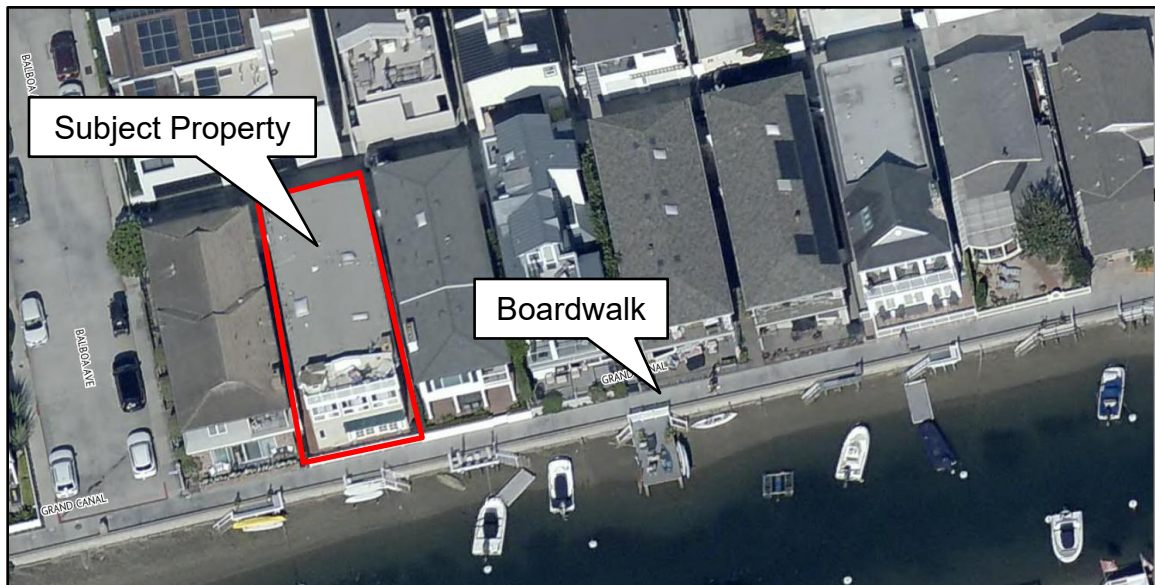

Figure 1: Oblique Image of Subject Property
- The property is a waterfront property on Balboa Island, as shown in Figure 1 below. The property is separated from the Grand Canal by a public boardwalk and the City-owned bulkhead.